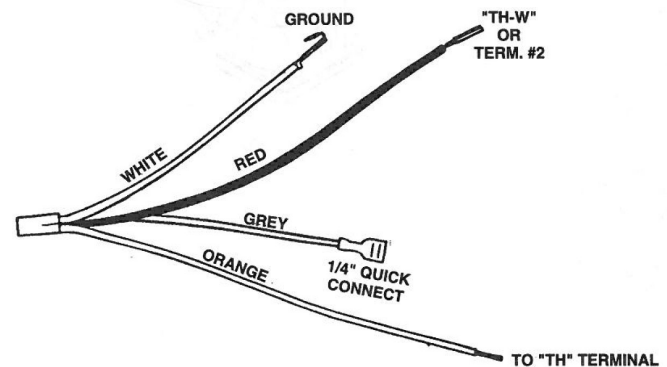

Figure 5
3. Disconnect the wires from the Honeywell module one at a time and reconnect it to the appropriate terminal on the 780 kit module. Follow the wiring instructions shown in Figure 5.
- A. Locate the orange lead wire on the 1751-724 adaptor, See Figure 5. Wire nut it to the power lead that came off terminal 25V+ on the old unit.